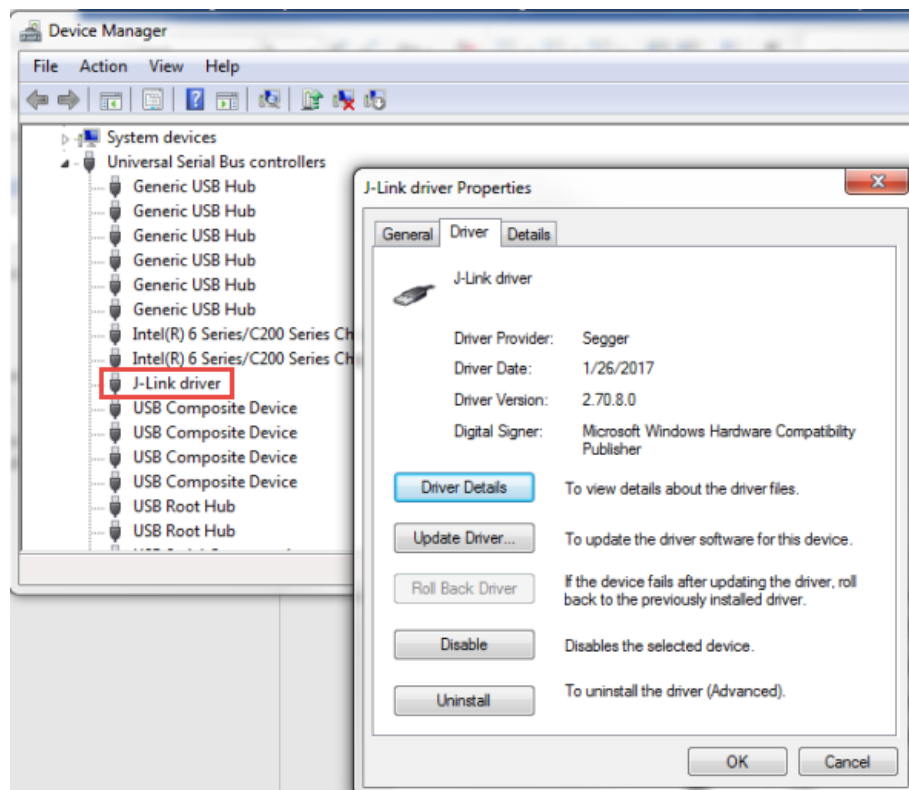

Figure 2-1. Device Manager Listing J-Link Device
2. Once the software is installed, connect J-Link to the kit’s debug connector and then plug the J-Link into a USB port on the computer. When USB enumeration completes, the J-Link device should appear on a Windows PC in the Device Manager as Figure 2-1 shows.